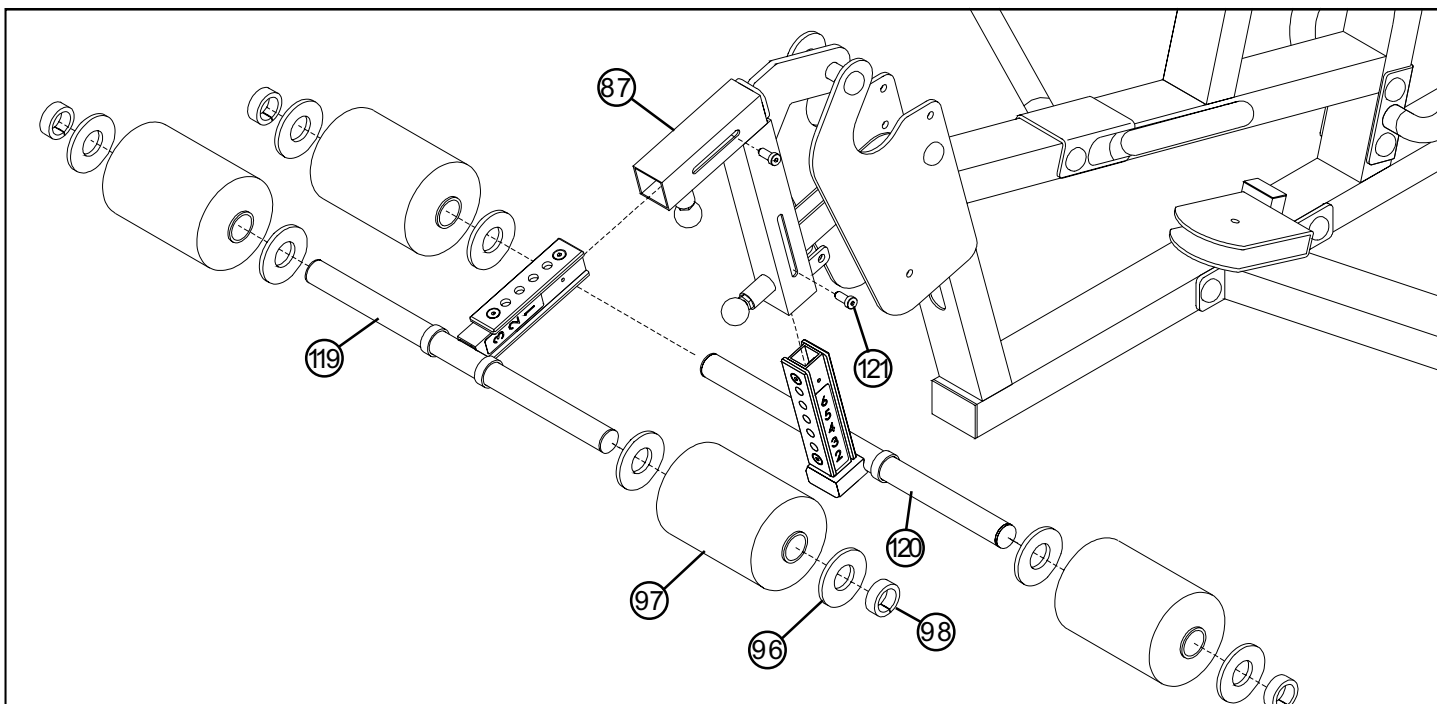

FIGURE 36
- Pull back SPRING PINS and insert the LEG CURL ROLLER PAD SUPPORT (119) and the LEG EXTENSION ROLLER PAD SUPPORT (120) into the LEG CURL/EXT PEDESTAL (87) using two 5/16" X 1/2" SHOULDER BOLTS (121) as shown in FIGURE 36.
- Assemble four 5 X 8" ROLLER PADS (97) and eight 2-3/8" OD PLASTIC WASHERS (96) to the LEG CURL and LEG EXTENSION ROLLER PAD SUPPORTS (119 & 120) using four 1-1/4" SHAFT COLLARS (98) as shown in FIGURE 36.